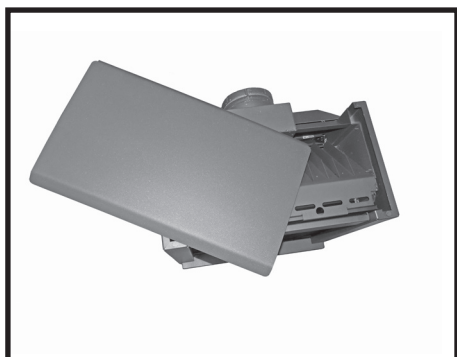

Figure 34: TN24 top cover.
1. Remove the top cover as shown in (Figure 34).